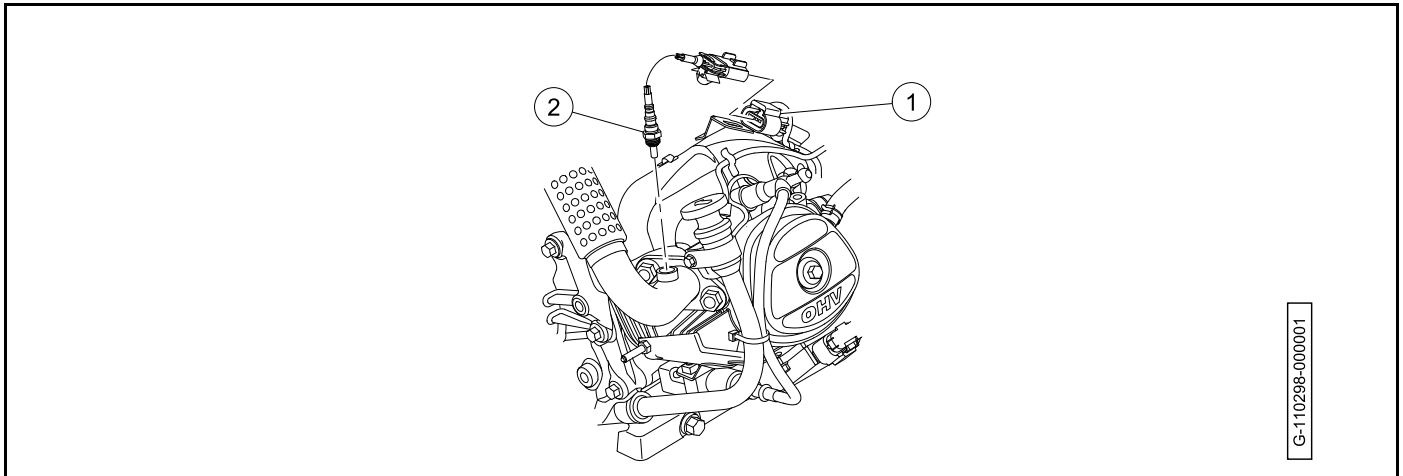

Figure 20-41 Oxygen Sensor
2. Disconnect the oxygen sensor connector from the engine wire harness (1) (**Figure 20-41, Page 20-37**).
1. Install the oxygen sensor (2) into the muffler tube (**Figure 20-41, Page 20-37**). Tighten the oxygen sensor to 13.25 ft·lb (18 N·m).
2. Connect the oxygen sensor connector to the engine wire harness (1).